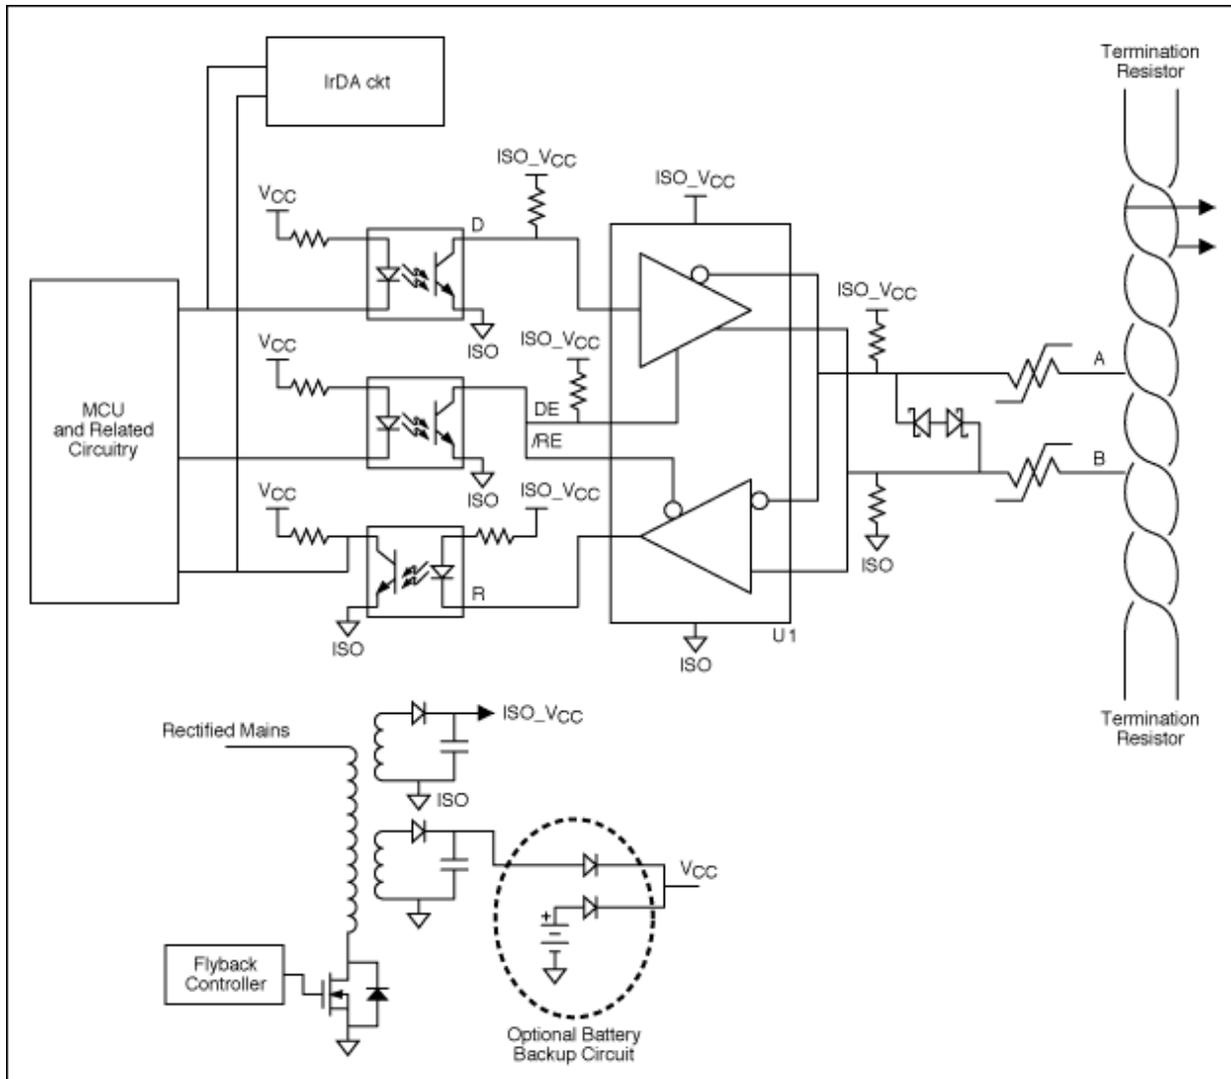

Figure 1. An example block diagram of an electronic power meter with an RS-485 port.
**Figure 1** shows an example block diagram of an electronic power meter using an RS-485 port. The port is electrically isolated from the MCU and analog front-end by the use of optocouplers and a transformer. This isolation provides protection and robustness against electrical surges on the RS-485 lines.
The pullup and pulldown resistors on the A and B lines serve to define the state of the receiver in the event of a cable disconnect. Using these resistors, the receiver output is always high when the cable is disconnected, which can have many advantages. In the Figure 1 system, the IrDA circuit has an open-drain output. Consider what would happen if the RS-485 transceiver were to incorrectly pull the line low when the cable becomes disconnected. In this case, the optocoupler's output transistor would be on and would hold the bus low, preventing any communication between the open-drain IrDA module and the MCU. By guaranteeing a high output on cable disconnects, the system can use other open-drain devices on the same UART bus.
The isolated circuitry is powered by an additional winding on the flyback transformer. In the Figure 1 diagram, the flyback has two outputs: the first is for powering the MCU and analog front-end. The second is electrically isolated and provides power to the RS-485 port. Observe that if a battery backup is used with the flyback power supply shown above, it would be effectively "diode OR-ed" in with the supply for the MCU ( $V_{CC}$  in the diagram). This means that the isolated  $V_{CC}$  would not be present when operating from battery. Therefore, the RS-485 circuit is not "on", so the meter cannot be communicated with during power outages and has no way to tell anyone that power has gone out.
Under all three conditions, the differential voltage is  $0\text{V}$ . Unfortunately, the RS-485 specification defines  $0\text{V}$  as an indeterminate voltage. This means the output of the receiver could either be high, low, or worse—it could oscillate between the two. Maxim's fail-safe receivers solve this problem by specifying the receive threshold between  $-50\text{mV}$  and  $-200\text{mV}$ . This is a tighter threshold than specified by the RS-485, and is therefore compliant. This is an advantage, because now the  $0\text{V}$  differential voltage is defined as a known state, thus eliminating the problems caused by the three conditions listed above. This allows the power meter hardware designer to remove the two bias resistors shown in Figure 1.